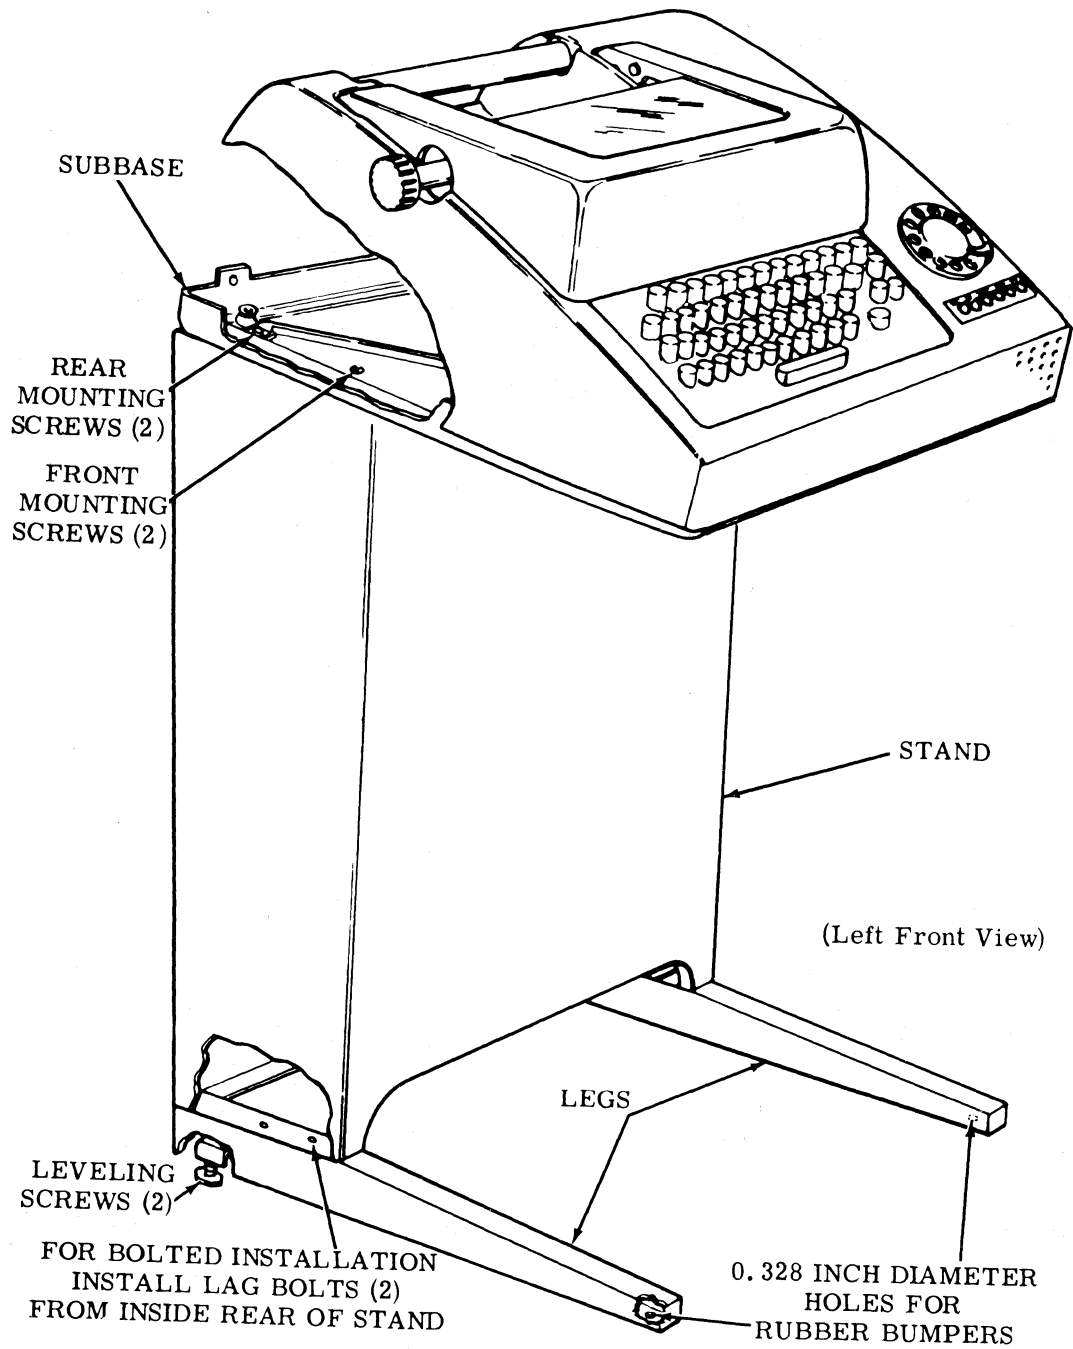

Figure 3 - Stand Leveling and Anchoring and Assembly of Subbase with Typing Unit to Stand
2.01 If the teletypewriter set is to be bolted to the floor, remove the front screw in each leg of the stand (Figure 3).